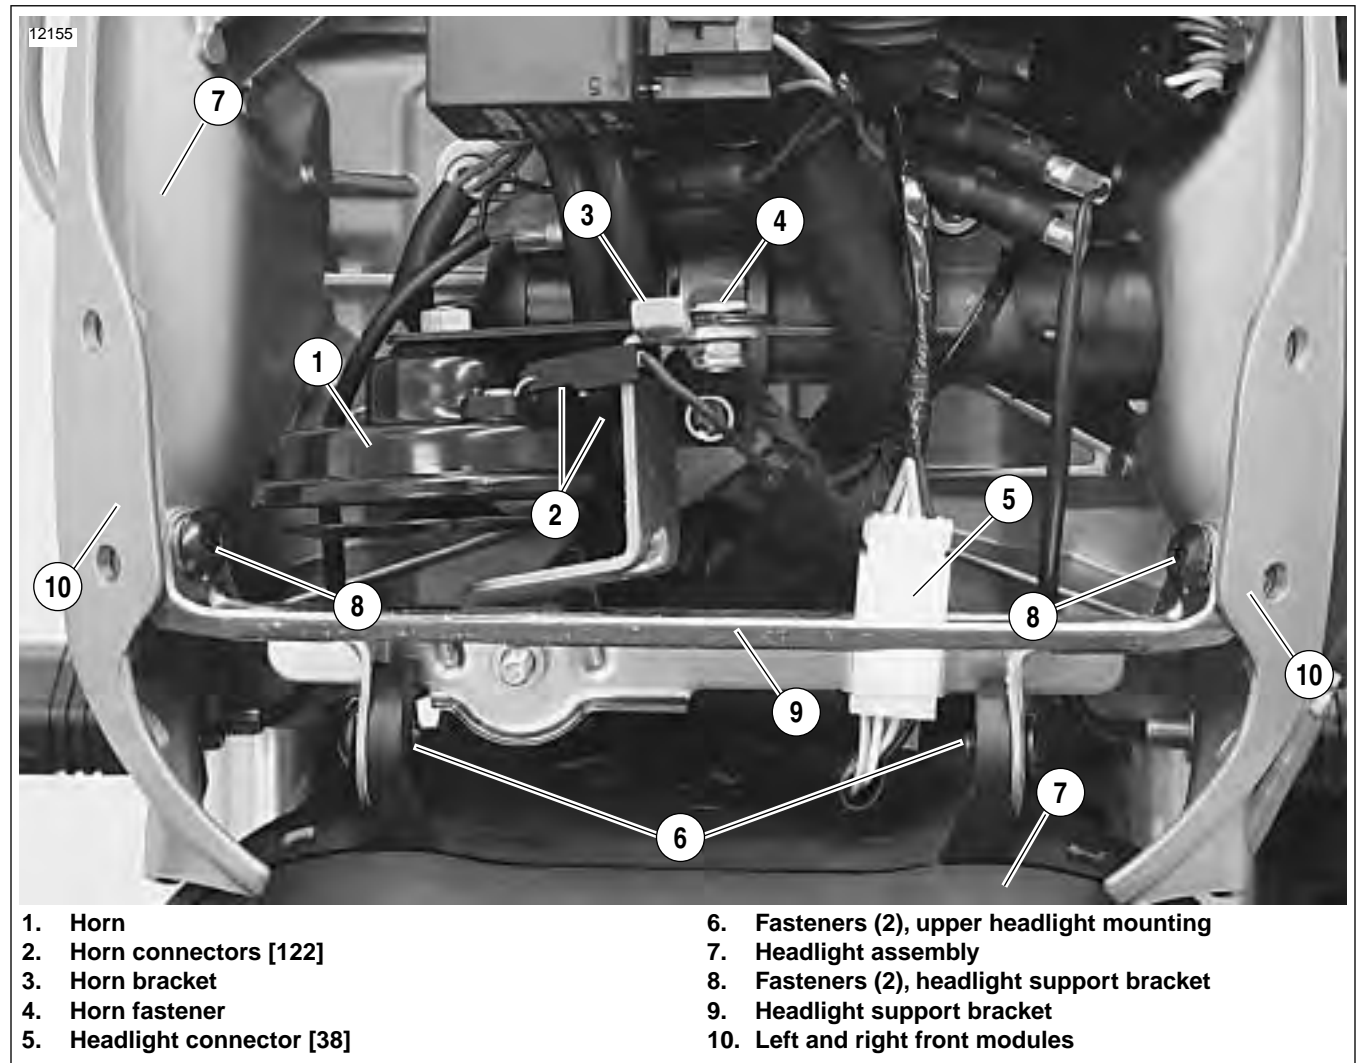

Figure 2-105. Electrical Connectors Behind Windscreen
4. See Figure 2-105. Disconnect horn connectors [122] (11) and remove horn fastener (4) and horn (1).